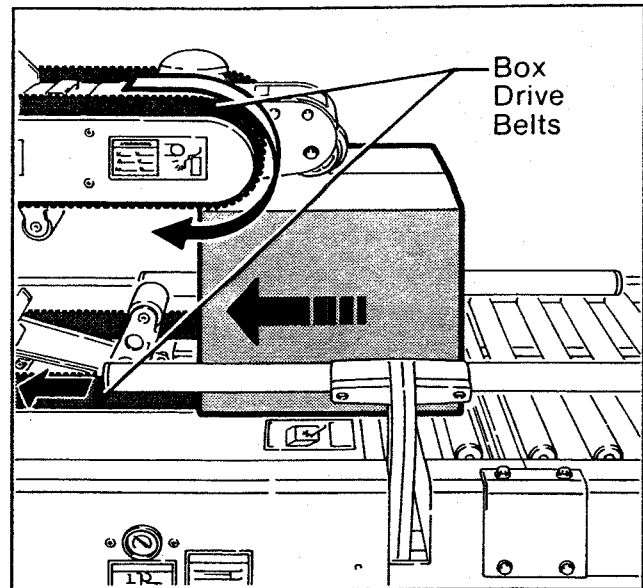

Figure 2-20 - Drive Belts
3. Once the box is pushed under the upper taping head, the upper taping head valve lever is released causing the drive assembly to descend onto the box top, as shown in figure 2-20, allowing the drive belts to convey the box through the upper and lower taping heads for application of the tape seals.